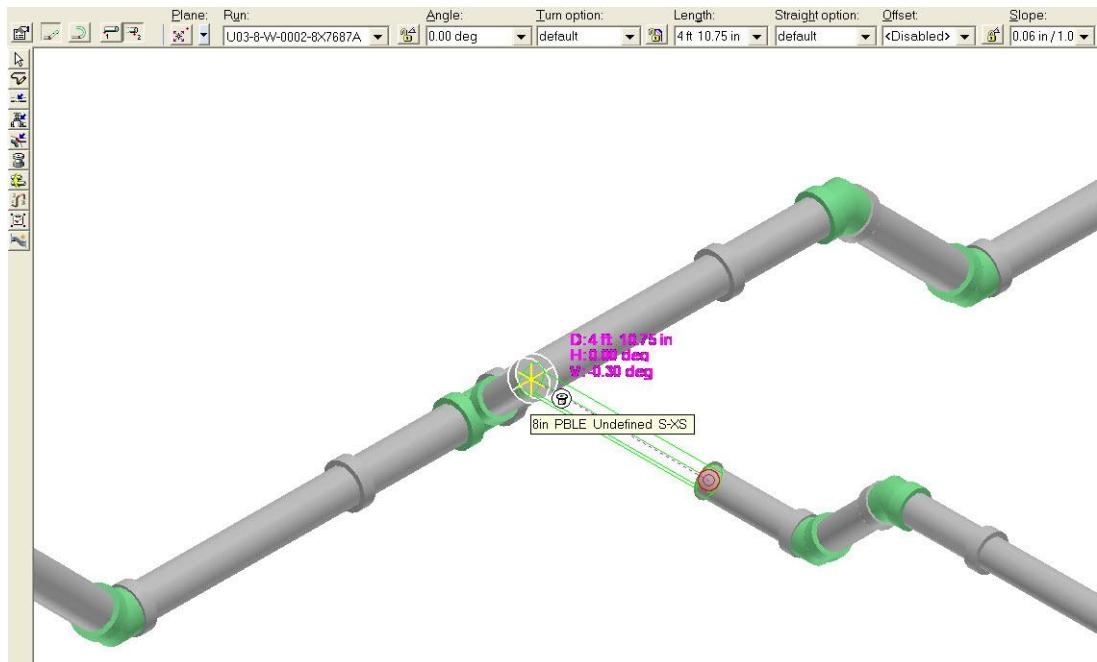

Figure 4. 36: Pipe End Feature
- Click in the graphic view to finish routing the lateral sewer line, as shown in Figure 4. 37.